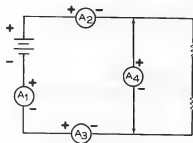

Figure 1-97
43. Which ammeter in the circuit of Figure 1-97 is connected correctly?